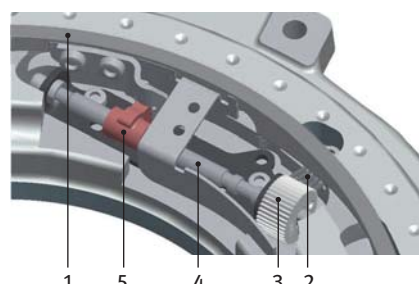

Fig. 16
In order to achieve finely tuned self-adjustment, there is also a detent (2) split into interim phases, as well as the drive pawl. This allows the pinion (2, Figure 16) to be turned in very small increments. The torsion of the